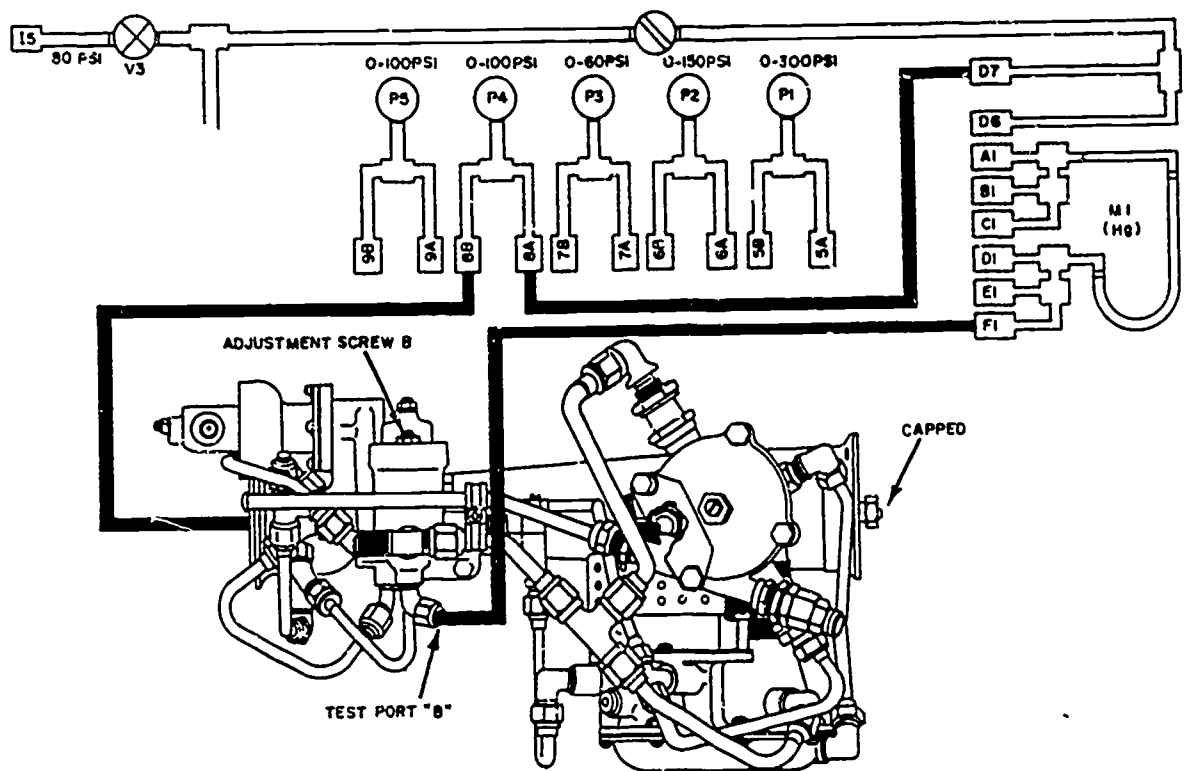

Figure 6
1. The final check you will make on the valve is the bellows pressure check. The bellows keep a proper flow of air through the valve from ground level up to the operating altitude. Look at figure 6 to find test port B and adjusting screw B. Connect the pneumatic hoses shown by the heavy black lines. Check off each item on your response sheet.